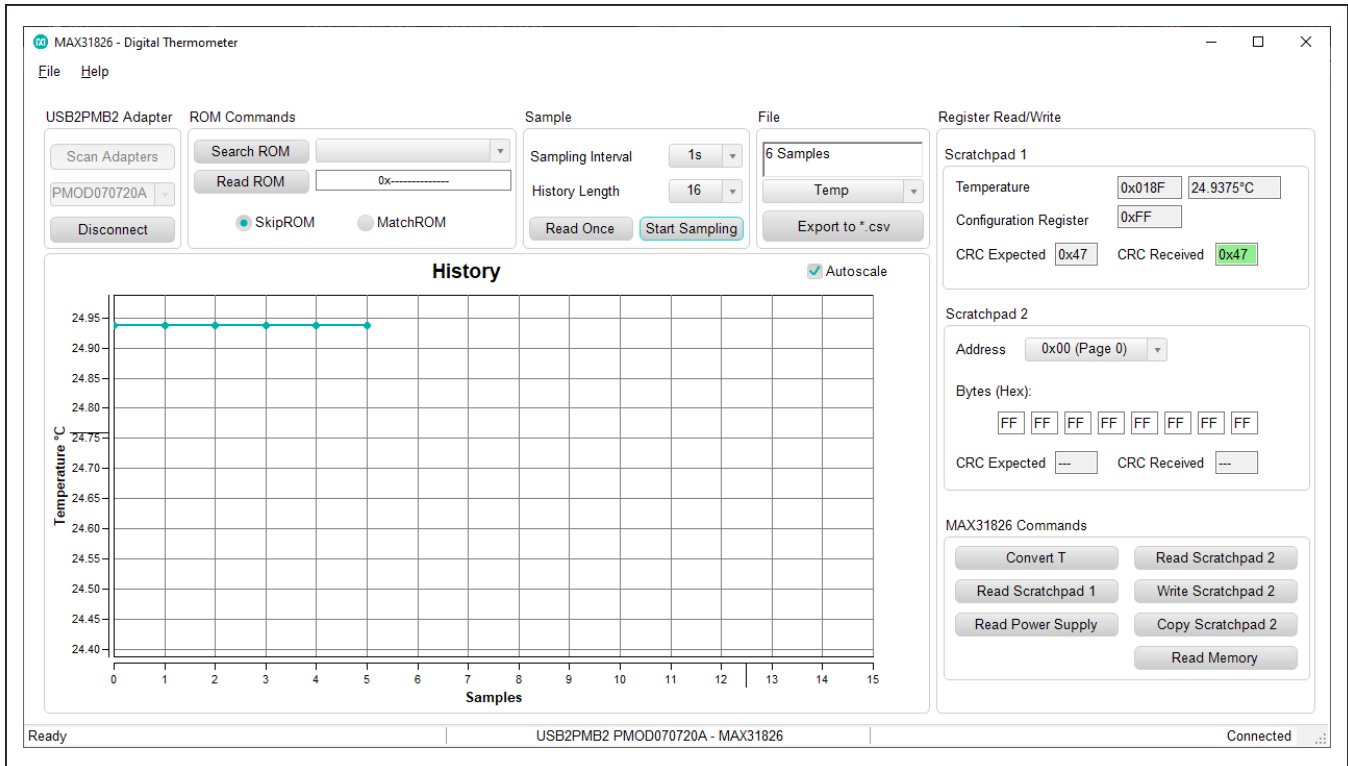

Figure 2. Main Window- Measuring Temperature on the MAX31826
- 7) Start evaluating the MAX31826 by clicking the **Start Sampling** button. Figure 2 shows the MAX31826 measuring temperature.